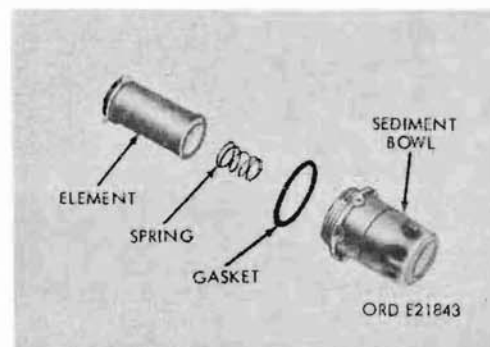

Figure 408. Fuel filter components
- (2) **Service or replacement.** Remove sediment bowl (fig. 408) by turning it counterclockwise. The gasket may adhere to filter body; discard gasket and remove all particles from bowl and filter body. Inspect filter element and spring for damage. Replace any damaged parts. Wash element and bowl in mineral spirits paint thinner. Dry parts thoroughly, and keep them covered until ready for installation.
- (3) **Installation.** Install new or clean parts in bowl and position new gasket on thread relief flange of bowl. Do not overtighten bowl as gasket may be damaged. Check for leak at gasket at first operation of heaters.